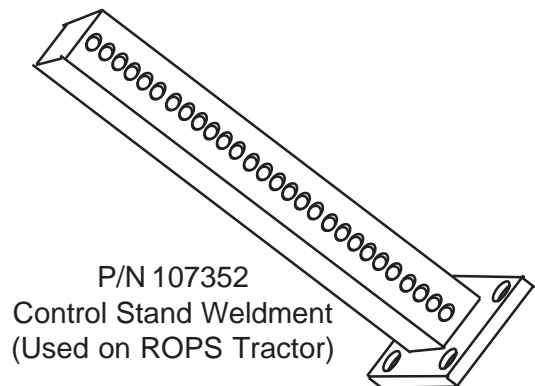
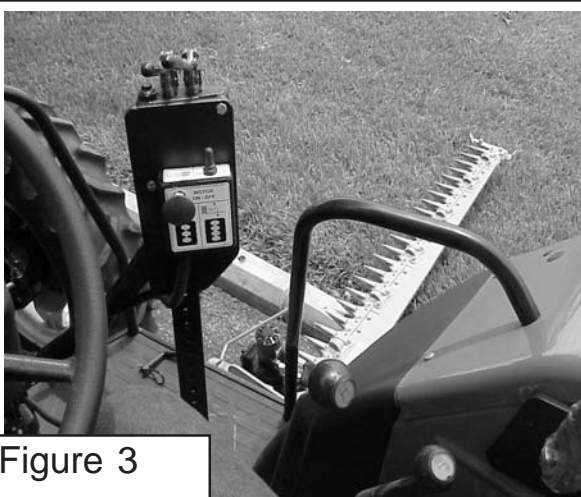

Figure 1
Figure 3
1.. Install Valve Control Handle Mounting Brackets, **ROPS TRACTOR** The valve control stand weldment (P/N 107352) will bolt to the flat operators platform on the RH side and is designe to be bolted to tractor. It is designed to use with ROPS. Install the mount stand where it will be convenient for the operator to use. The control stand weldment is adjustable for height, this is done by selecting the mounting hole you want to use. The stand can be cut for height adjustment if wanted on the ROPS Model. The valve control bracket (P/N 02977335) bolts the stand weldment using the holes that best fir the operators needs (See Figure 1 & 2). Once the right distance is decided to fit operator the valve control mount will bolt to the floor of the operators plat form with 4 bolts. The holes will need to drilled through the floor, check the under side of the floor before drilling any holes to make certain drill bit will not hit and damage anything (See Figure 3). The control valve bolts direct to the valve stand on the ROPS model.